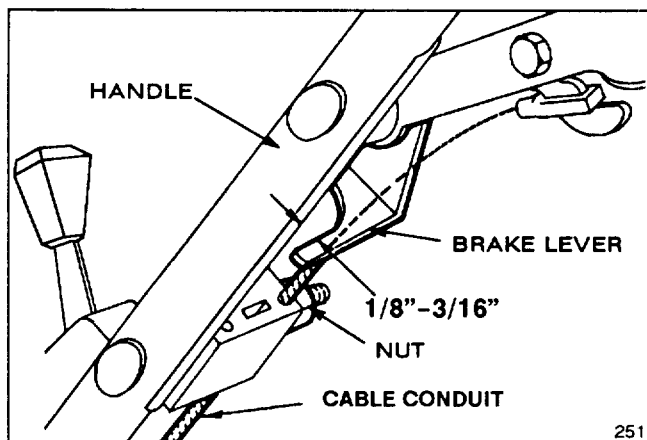

Figure 25
2. **CHECK ADJUSTMENT** (Fig. 25)—Move control bar toward handle until slack in wire is removed. Gap between brake lever and handle must be 1/8"–3/16". See step 3 for adjustment.
3. **ADJUST CABLE CONDUIT** (Fig. 25)—Loosen nut on cable bracket. Insert 1/8"–3/16" object between brake lever and handle. Pull down on cable conduit until all slack is removed from wire. Then tighten nut.